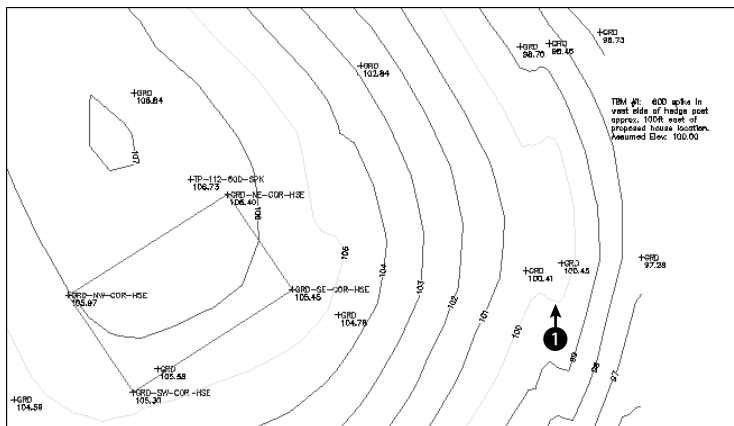

Figure 16-4: The topographical drawing's contours are polylines.
2. Save the file as `ab16-02.dwg` in your AutoCAD Bible folder. This is a topographical drawing, as shown in Figure 16-4. The contours are polylines.
3. Choose **Modify** ⇨ **Object** ⇨ **Polyline** to start the PEDIT command. Select the polyline at ❶ in Figure 16-4.
5. Type **e** ↵ to choose the **Edit vertex** option. At the Enter a vertex editing option [Next/Previous/Break/Insert/Move/Regen/Straighten/Tangent/Width/eXit] <N>: **prompt**, type **n** ↵ several times until the X mark is at ❶ in Figure 16-4. (There are many vertices—it's not important that you find the exact one.)